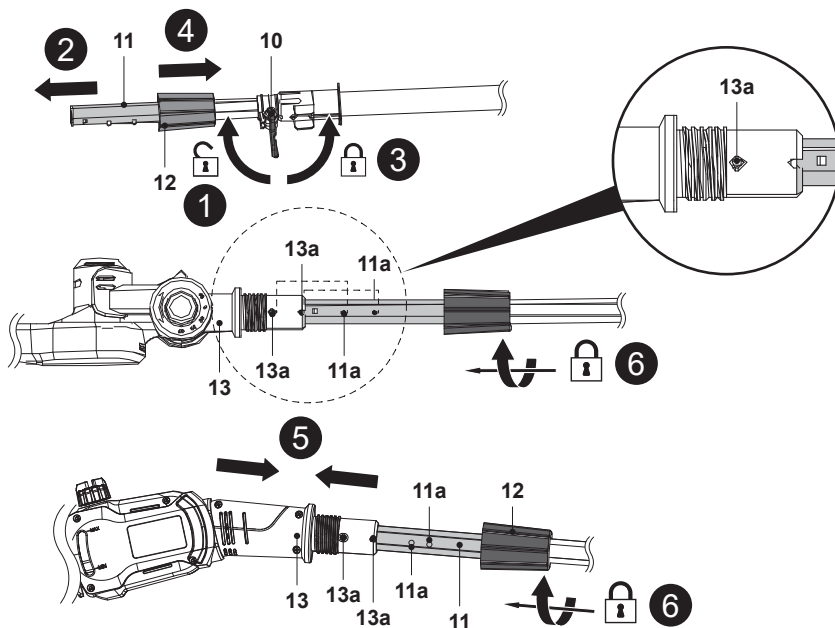

Fig. 2
1. Loosen the locking lever (10) (Fig. 2, step 1) and pull out the pole extension (11) (Fig. 2, step 2), then fasten the locking lever (10) (Fig. 2, step 3).
2. Move the locking sleeve (12) back onto the pole extension (11) (Fig. 2, step 4).
3. Choose one suitable cutting unit, then align the pole extension (11) with the pole support (13) and insert it. Make sure the pins (11a) snap in the bores (13a) for reliable connection (Fig. 2, step 5).
4. Fit the locking sleeve (12) on the thread of pole support (13) and tighten the locking sleeve (12) clockwise to secure the connections (Fig. 2, step 6).